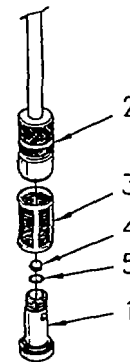

Figure 3-2. Foot Valve
- (1) Unscrew valve body (1, Figure 3-2) from valve adapter (2).
- (2) Slide screen (3) off valve body (1).
- (3) Remove ball poppet (4) by tipping valve body (1).
- (4) Remove preformed packing (5).
- (1) Install preformed packing (5, Figure 3-2) into valve body (1).
- (2) Insert ball poppet (4) into valve body (1).
- (3) Slide screen (3) onto valve body (1).